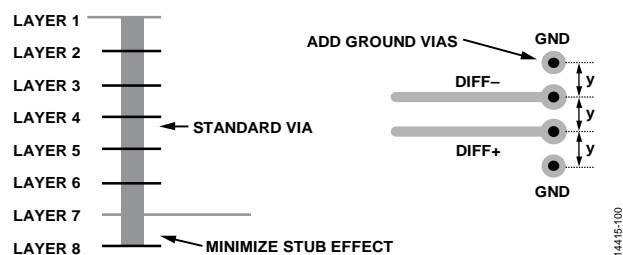

Figure 122. Minimizing Stub Effect and Adding Ground Vias for Differential Stripline Traces
- If using standard vias, use the maximum via length to minimize the stub size. For example, on an 8-layer board, use Layer 7 for the stripline pair (see Figure 122).
- For each via pair, place a pair of ground vias adjacent to them to minimize the impedance discontinuity (see Figure 122).